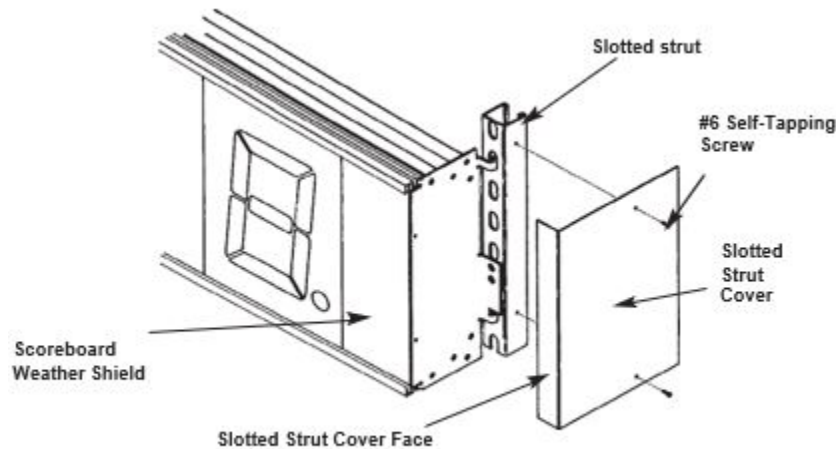

Figure 3-0: Installing optional slotted strut cover
- 1) Position the cover over the slotted strut on one of the outside edges of your scoreboard, aligning the front face of the cover behind the scoreboard weather shield slot as shown in Figure 3-0.